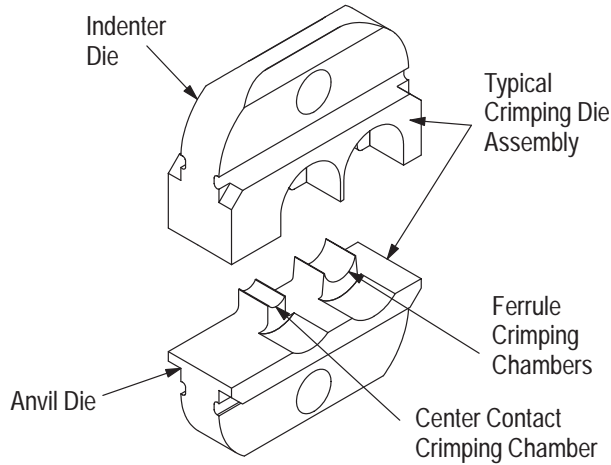

Figure 1
Each two-piece crimping die assembly consists of an indenter die and an anvil die, which when closed forms two or three crimping chambers. The larger crimping chambers crimp the ferrule of the connector onto the coaxial cable. The smaller crimping chamber crimps the center contact onto the center conductor of the coaxial cable. Each die is held in the PRO-CRIMPER II hand tool jaws by a single screw. See Figure 1.
3. DIE INSTALLATION (Figure 1)